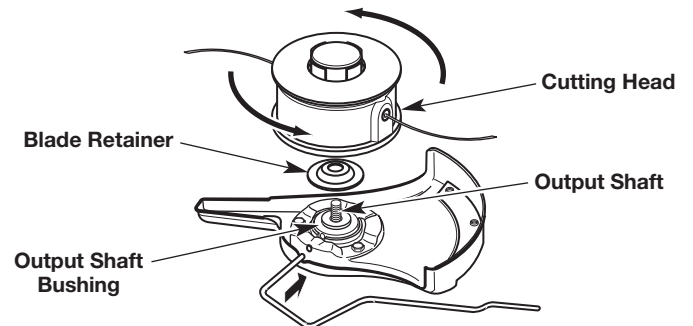

Fig. 13
4. While holding the locking rod in place, put the blade retainer on the output shaft with the flat surface against the output shaft bushing (Fig. 13).
5. Screw the cutting head counterclockwise onto the output shaft (Fig. 13). Tighten the cutting head securely.